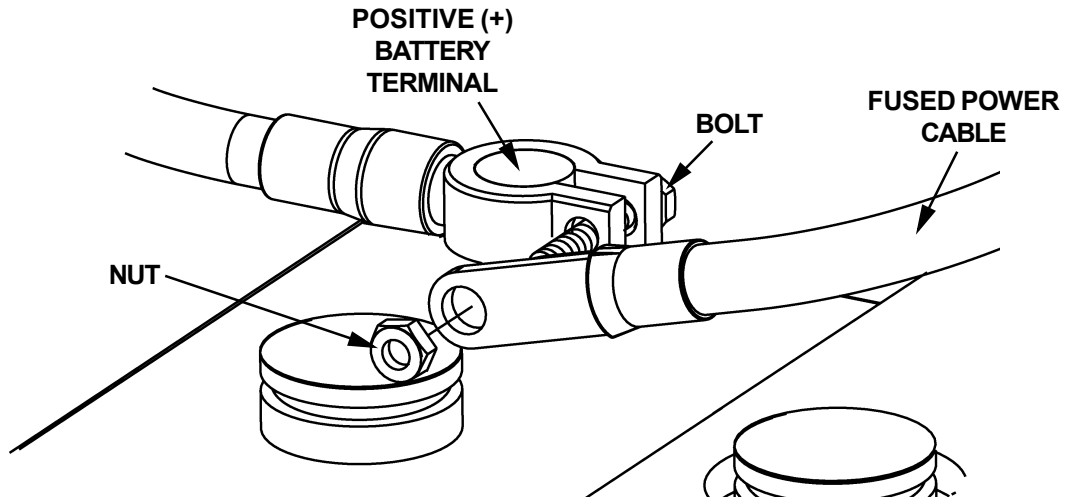

FIG. 10
9. Remove nut from positive (+) battery terminal connector to reconnect Power Cable (**FIG. 10**). Connect Power Cable to the positive (+) battery terminal connector (**FIG. 10**). Install and tighten nut.